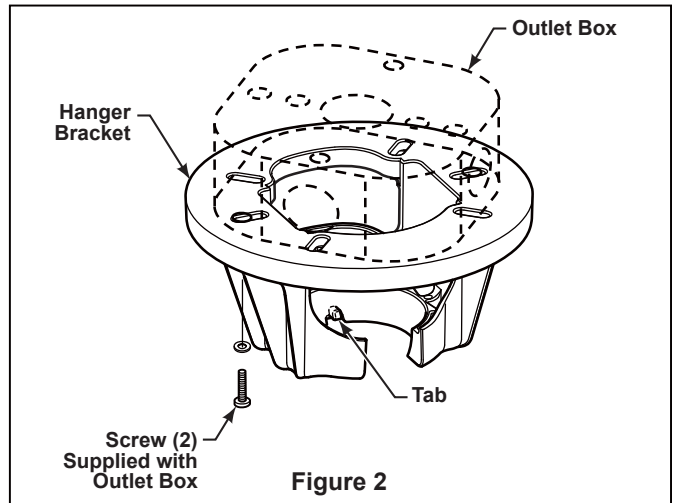
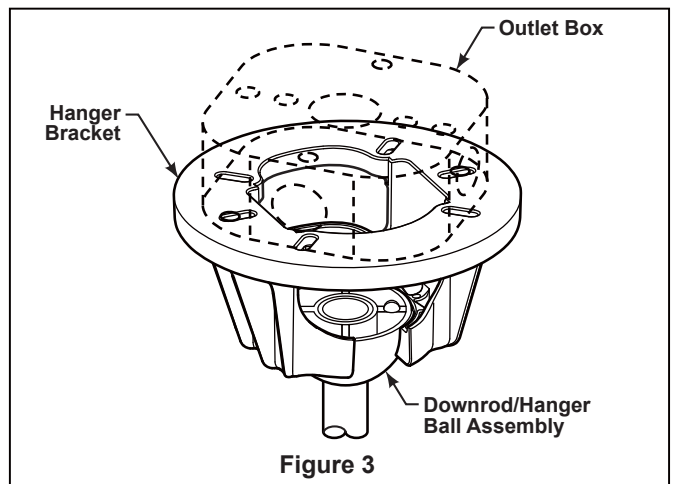

Figure 2
Figure 3
1. Securely attach the hanger bracket to the outlet box using the outlet box screws and washers supplied with the outlet box (Figure 2).
NOTE: Outlet box screws pass through slotted holes of the hanger bracket (Figure 2).
3. Carefully lift the fan and seat the downrod/hanger ball assembly on the hanger bracket that was just attached to the outlet box (Figure 3). Be sure the groove in the ball is lined up with tab on the hanger bracket (Figure 2).